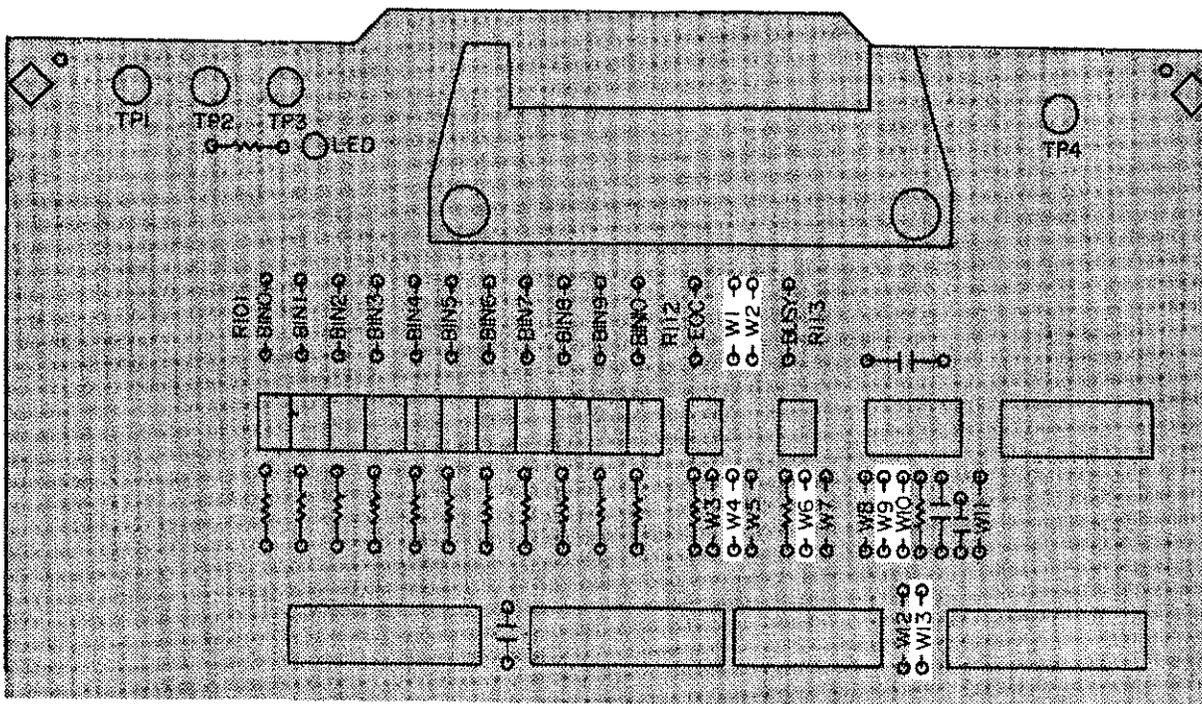

Figure 4-30. RTR2 Jumper and Pull-Up Resistor Locations
1. Configure the following interface signals by installing the jumpers as shown in Figure 4-30.
2. Bring + 5V out through pins 12 and 17 of the handler interface rear panel connector ( install a jumper at W1 for + 5V and at W2 for the **COMMON** connection ). Refer to Figure 4-30 for the locations of W1 and W2.